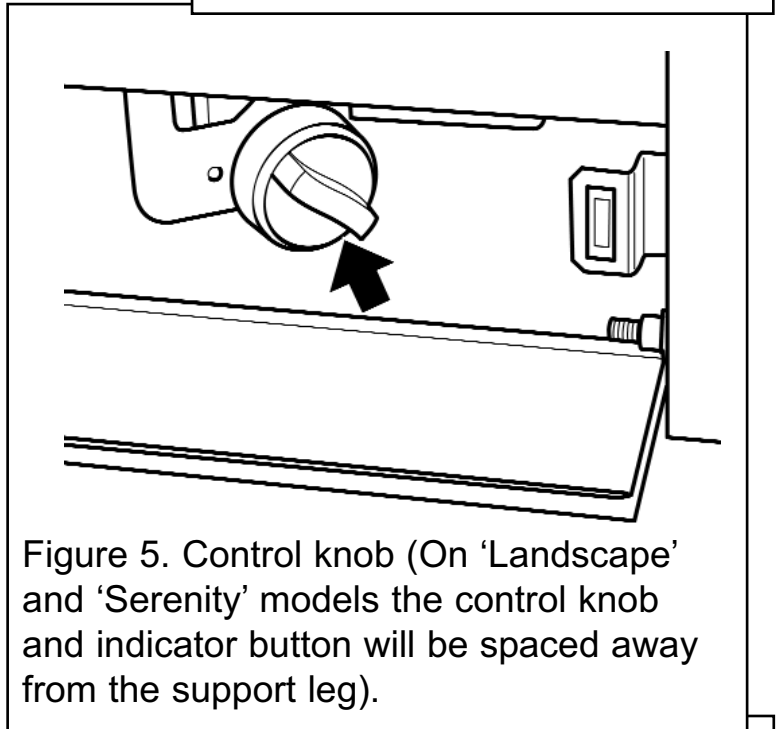
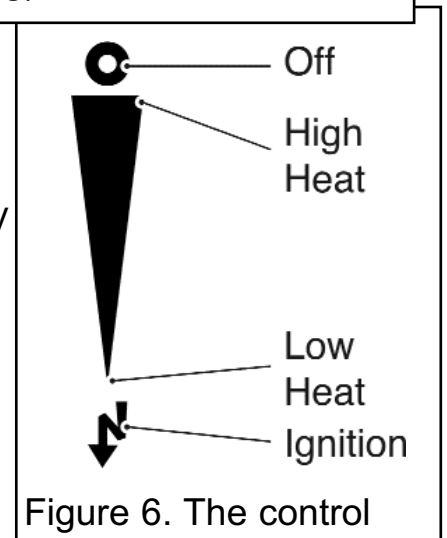

Figure 5. Control knob (On ‘Landscape’ and ‘Serenity’ models the control knob and indicator button will be spaced away from the support leg).
Figure 6. The control
- Depress the control knob (See figure 5) and turn anticlockwise towards the PILOT/IGN position (See figure 6). A spark should be generated at the pilot while turning. The spark should ignite the pilot. The pilot flame can be seen at the left side of the fuel effect.